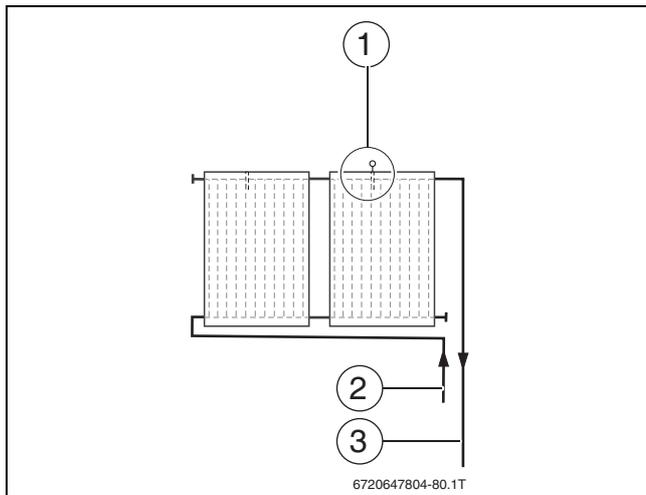

Fig. 65 Position of the collector sensor
- ▶ Fit the collector sensor with connected flow into the collector with the flow outlet (→ Fig. 65).